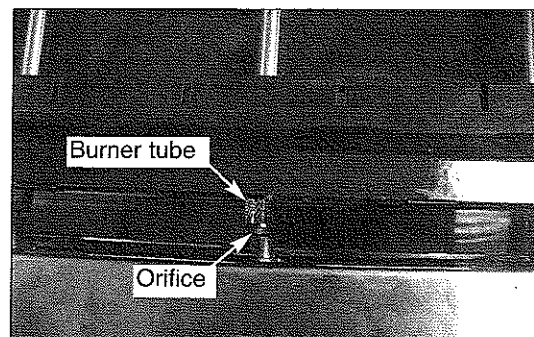

Fig 19
**Note: Please make sure the orifice of the main burner valves slide into the main burner tubes. (See Fig. 19)**